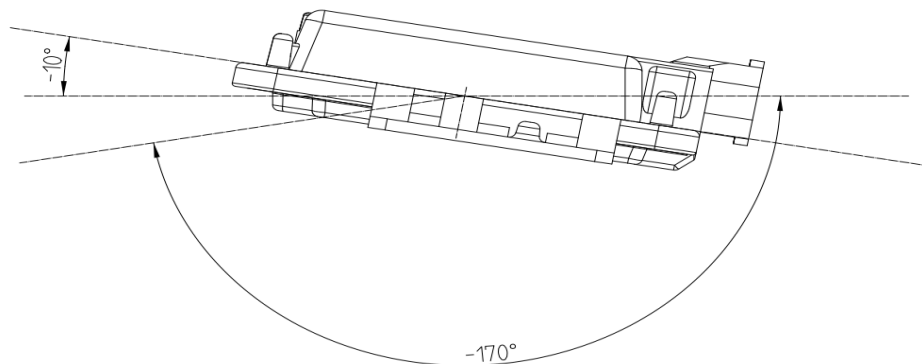

Figure 13 Horizontal Installation Angle
7. VCU should be installed in the horizontal and vertical position according to the connector downwards and maintain a certain angle to prevent water from entering the connector. In the horizontal direction, the recommended installation angle is -170° to -10° , as shown in Figure 13 below. In the vertical direction, the recommended installation angle is -170° to -10° , as shown in Figure 14 below.